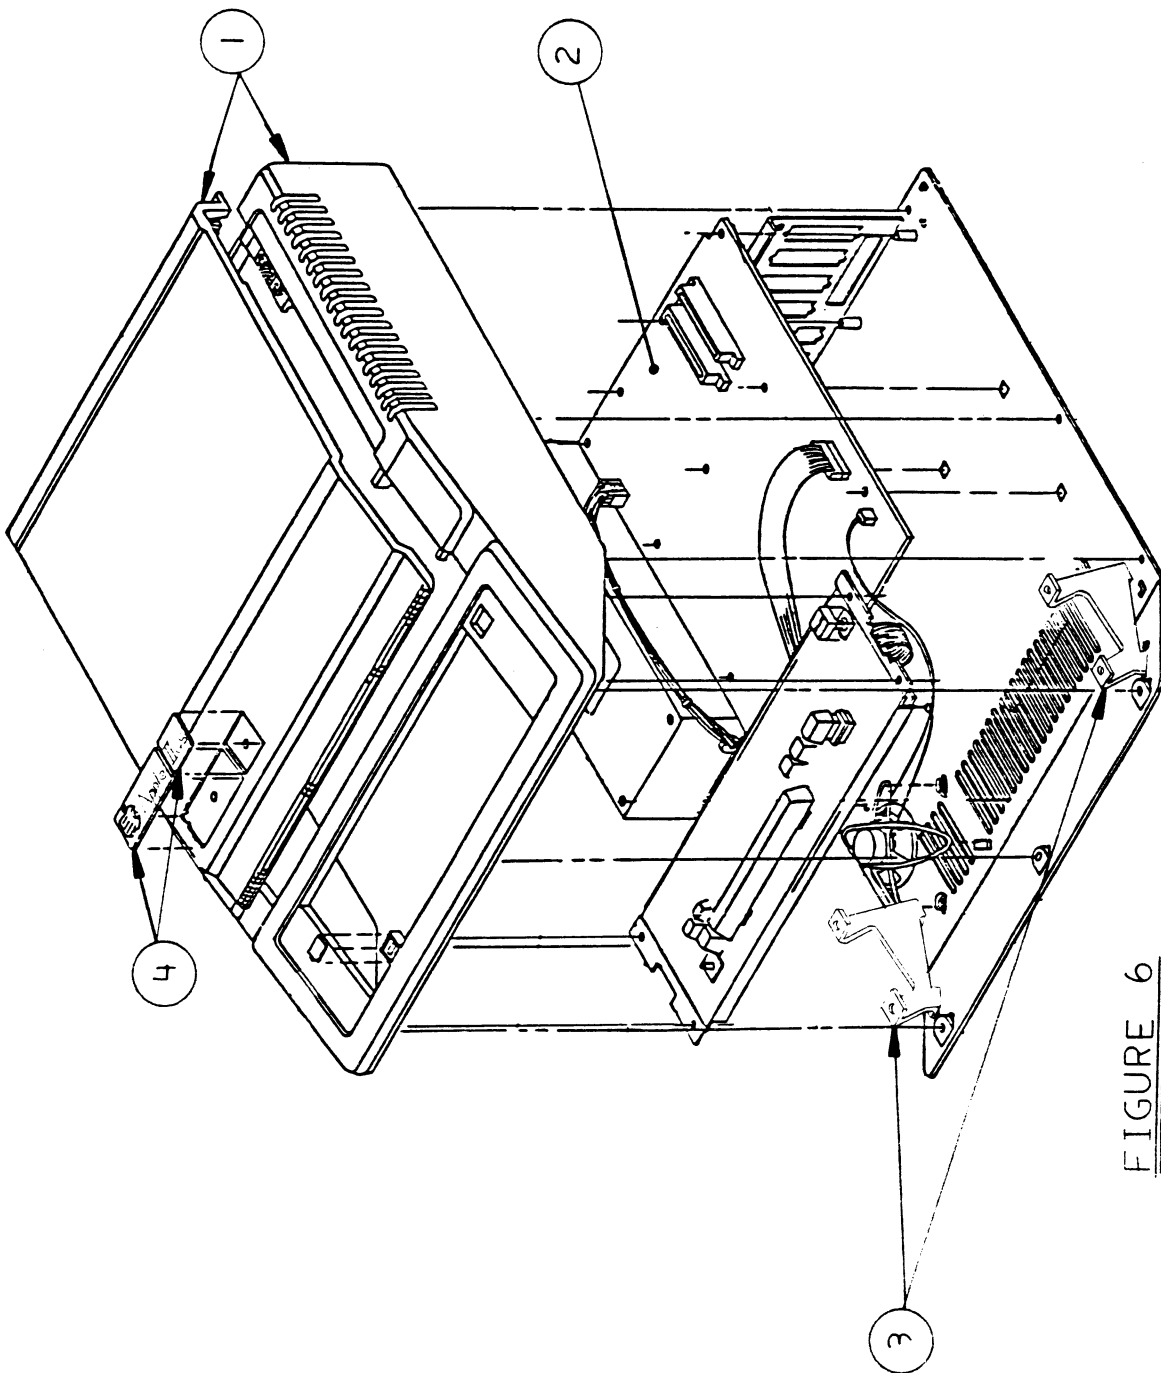

FIGURE 6
□ APPLE IIgs – UPGRADE (Figure 6)